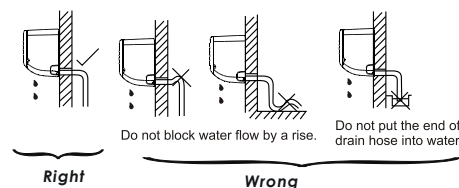

Fig.5
1. Run the drain hose sloping downward. Do not install the drain hose as illustrated in Fig.5.